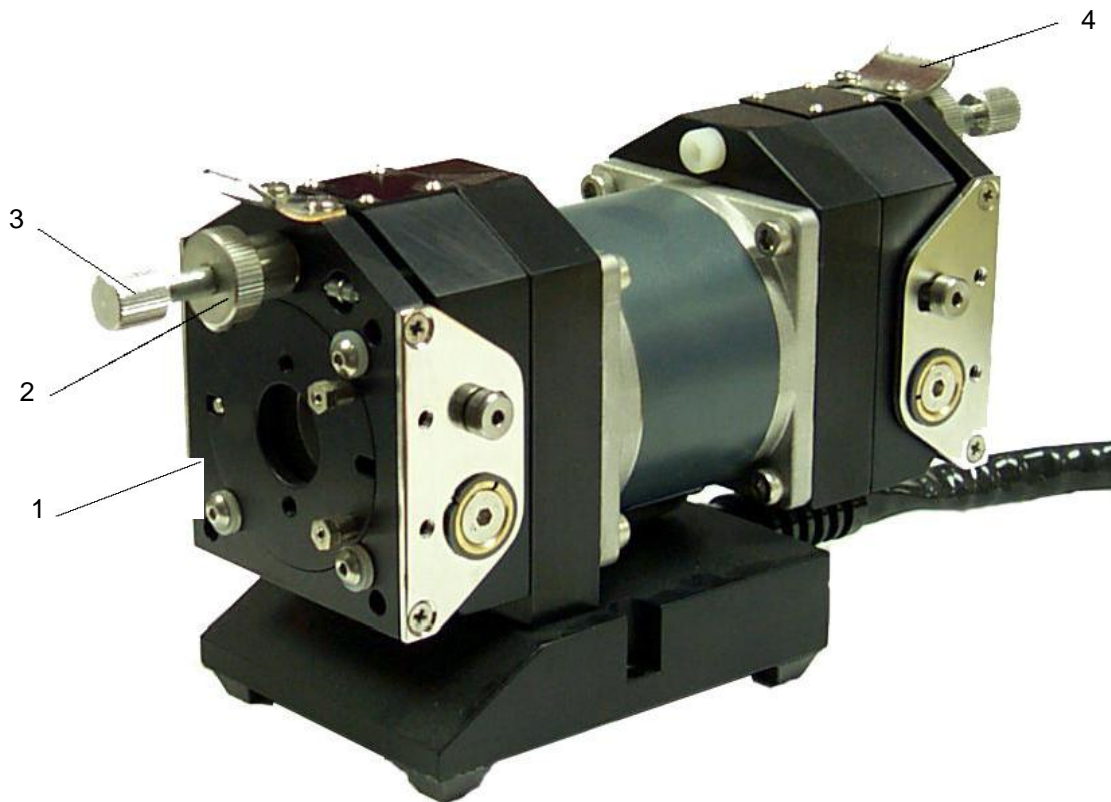

Figure 5.2 Double Ended Microspense AP Motor/Base Module Adjustment
5.2.2 Displacement Adjustment (Figure 5.2)
If this option is used, verify the fixed displacement washers are not under the head of the two shoulder screws (Figure 5.2 Item 5) but, have been removed to allow the Pump Module displacement adjustment mechanism to pivot freely between the two positions.
5.2.4 Fixed Displacement (Figure 5.2)